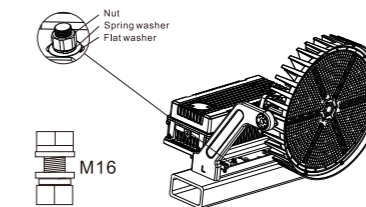

Figure 4
3. Install the luminaire on the crossbar and secure it with nuts, spring washers and flat washers (Figure 4);